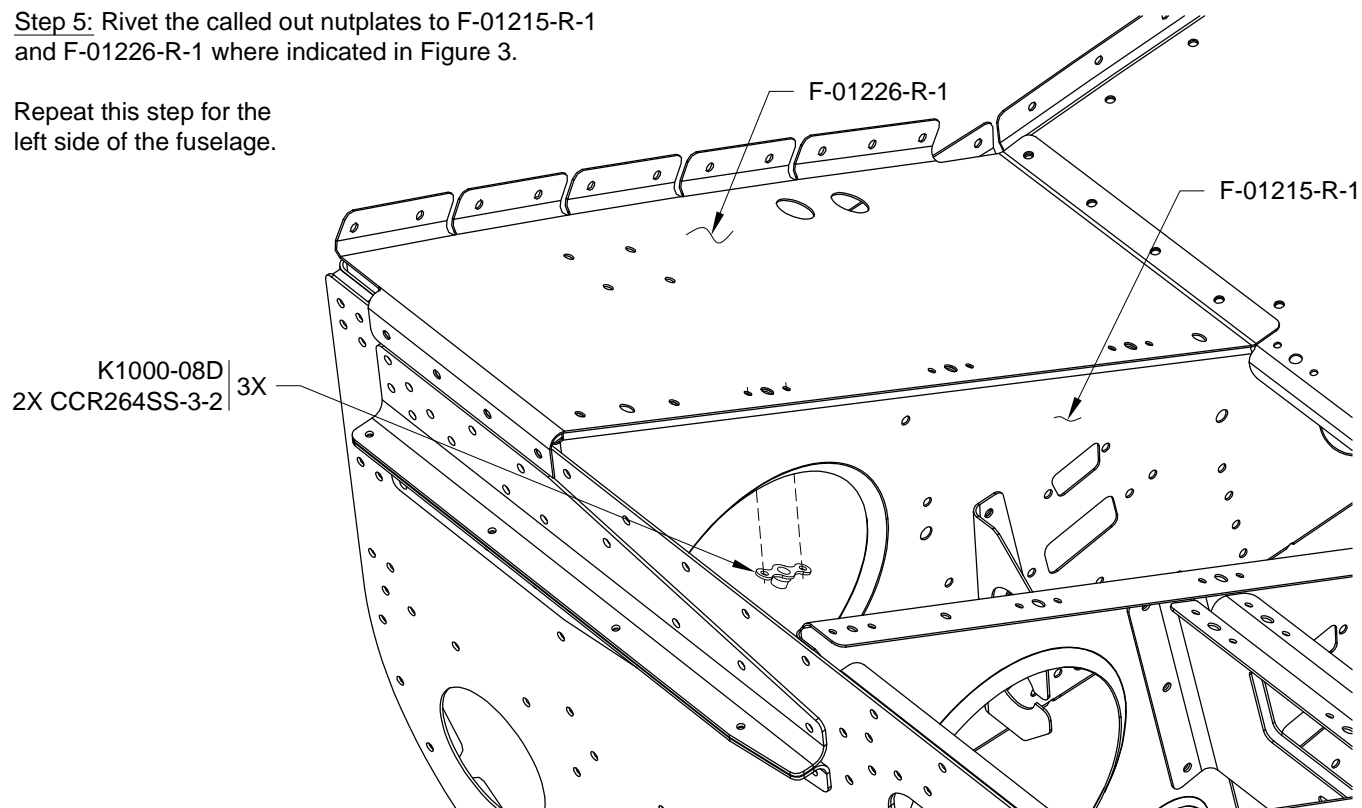

FIGURE 3: ATTACHING NUTPLATES
Step 5: Rivet the called out nutplates to F-01215-R-1 and F-01226-R-1 where indicated in Figure 3.